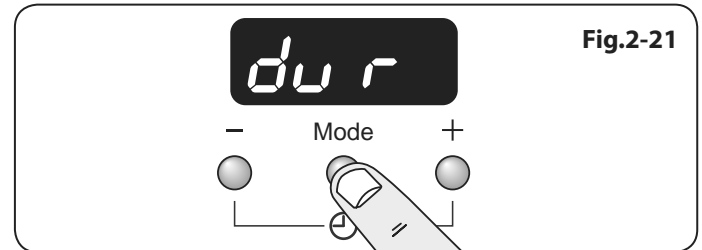

Fig.2-21
1. Press the mode [Mode] button until the display flashes 'dur' (Fig.2-21). Then set the 'cook period' using the [+] or [-] buttons.